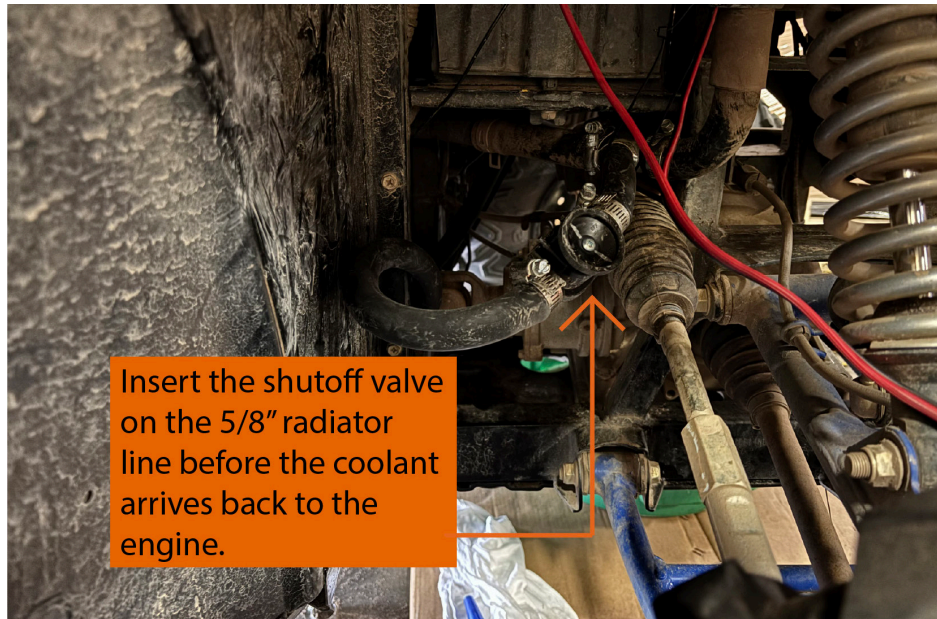

FIGURE 7
29. Cut and insert the shutoff valve on 5/8" radiator line. FIGURE 7